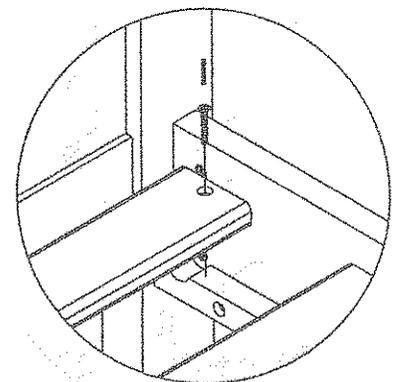

Figure 7
4. Secure the **Bottom Wooden Slats** in place by treading **CSK C/B Screws (I)** through the predrilled holes on both ends of **Bottom Wooden Slats** as shown in **Figure 7**.